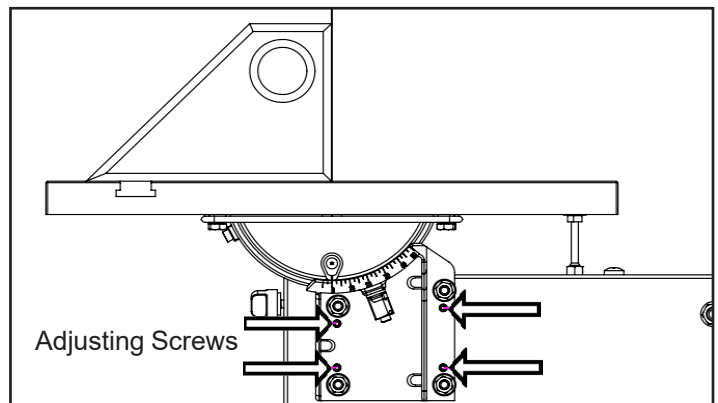

FIGURE 12
1. On the lower Trunnion Support (#153), *slightly* loosen the four Hex Flange Nuts (#149) whose bolts (#155) hold the support to the bandsaw frame. FIG. 12.
3. Using the 2.5mm hex wrench, turn the rear trunnion micro adjusting hex screws (#150) to adjust the table position. FIG. 12. Adjust the micro screws in pairs, top 2 or bottom 2, to adjust the table angle to the blade.